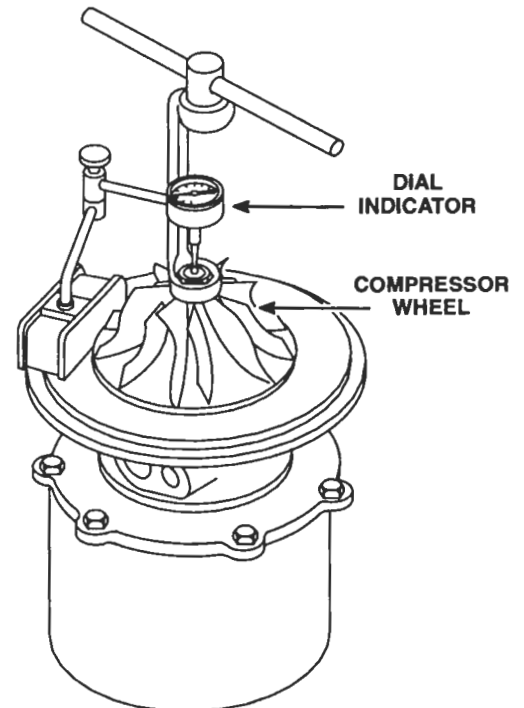

Figure 34. Tightening Compressor Wheel Locknut
- h. Place wrench J 21223-02 on the locknut and attach a sliding tee handle to the wrench (Figure 34.)